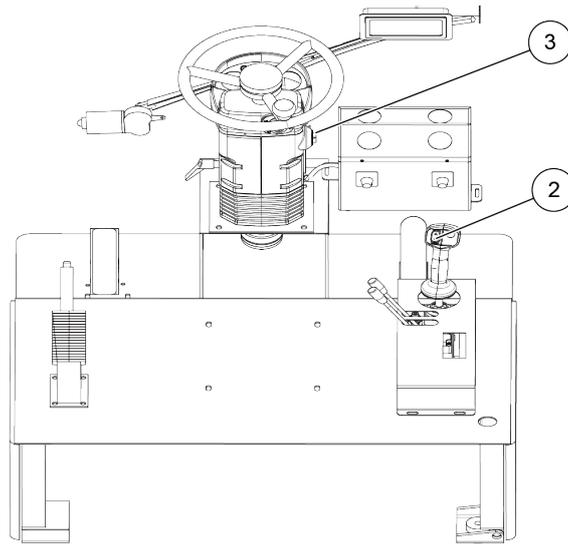

Figure 5-22 O peration platform
(1) Power switch
Step 3: Insert the key into the starting switch (3), the ignition switch is in "OFF" state (4), as shown in Figure 5-22 and 5-23;
Step 4: Check and make sure that the travel control switch (2) is in the middle position, as shown in Figure 5-22;